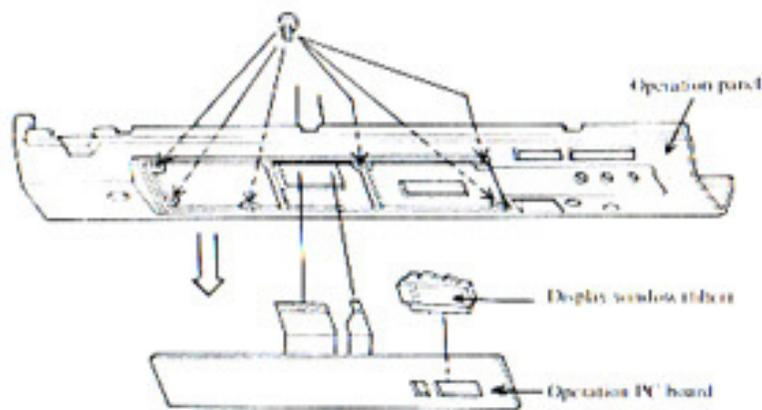

Figure 10-17
1. Mounting the operation PC board (refer to figure 10-17)
- ① With the operation PC board turned upside down, place the display window (filter) into the opening in the operation PC board
- ② Next, place the operation panel over the operation PC board and put the screws in and tighten them (put the cable through the opening in the operation panel).